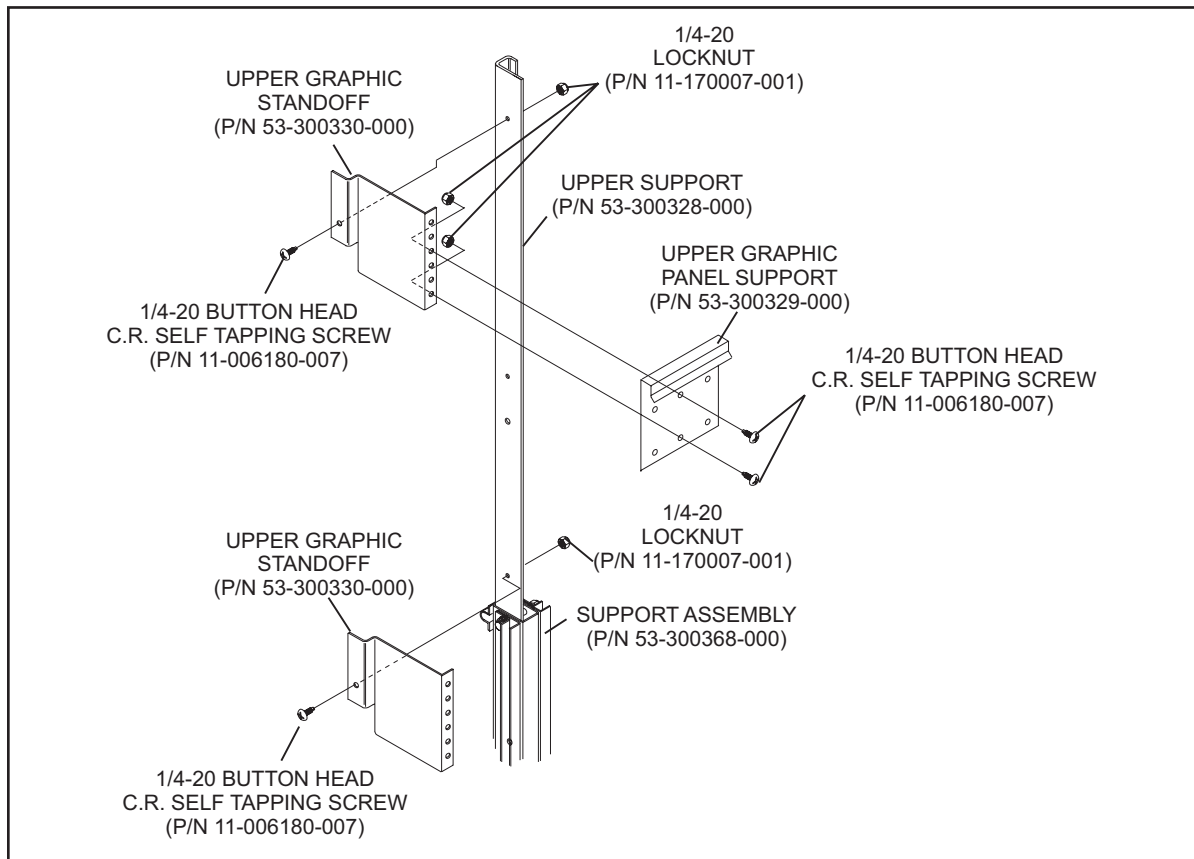

Figure 11
1. Position upper graphic support standoffs making sure the notched in the standoff is facing downward. Refer to *Figure 11*.
2. Attach upper graphic support standoffs with provided hardware. Refer to *Figure 11*.
3. Align upper graphic panel supports with standoffs and secure with provided hardware. Refer to *Figure 11*.